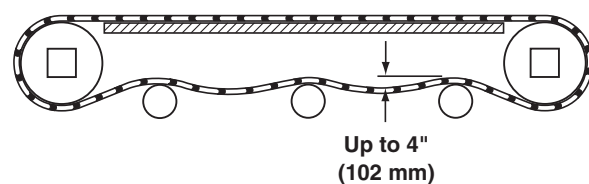

Figure 21
7. Check belt sag by measuring from the top of the return (Figure 21).